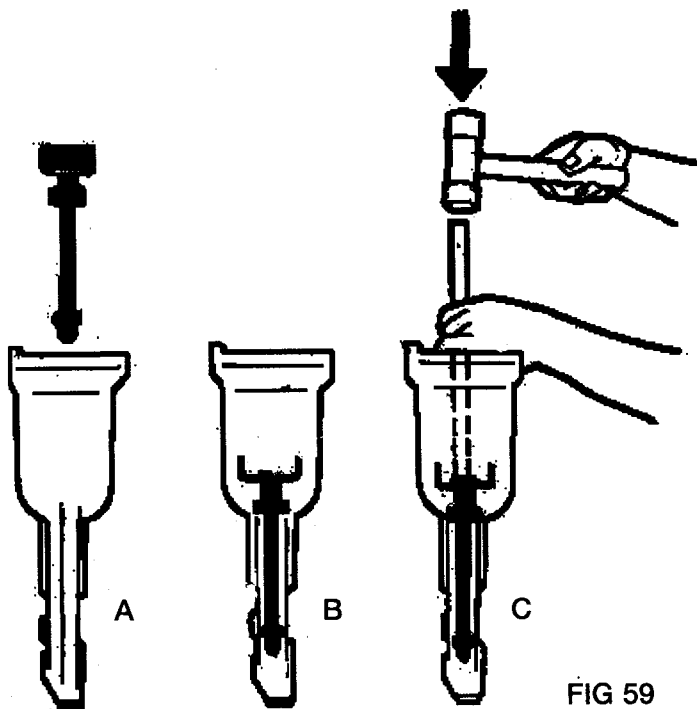

FIG 59
2. Hold pinion shaft assembly vertically and slide into casing A and B (Fig. 59).
3. With a soft punch drive shaft to bottom of casing (Fig. 59).